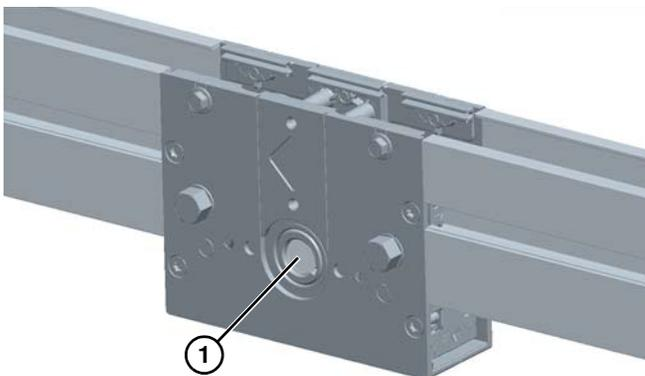

Figure 16
- Using a punch and hammer, carefully tap the shaft (**Figure 16, item 1**) out of the mid drive assembly.